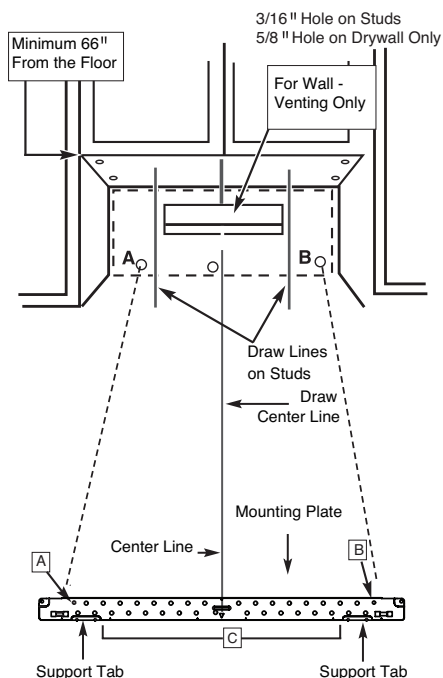
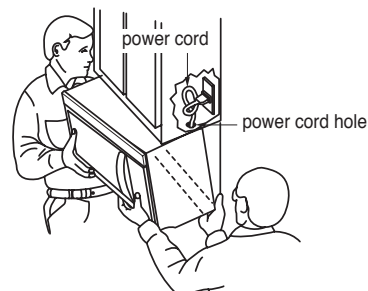

Figure 28
Figure 30
2. Drill holes at points A, B. Drill the third hole inside area C, through one of the bottom holes to match the location of a stud. If there is a stud, drill a 3/16 hole for lag screws. If there is no stud, drill a 5/8 hole for toggle bolts. These holes must be used for mounting. If the holes are not used, the installation will not be secure. Installer must use these holes for proper installation. See Figure 28. Use toggle bolts through these holes, unless one of them lines up with a stud. Use a wood screw for studs. Make sure to use at least 1 lag screw in a stud, and 2 toggle bolts in the drywall or the plaster.
1. Carefully lift microwave oven and hang it on support tabs (See Figure 28) at the bottom of the mounting plate. Reaching through upper cabinet, thread power supply cord through the power supply cord hole in the bottom of the upper cabinet. See Figure 30.